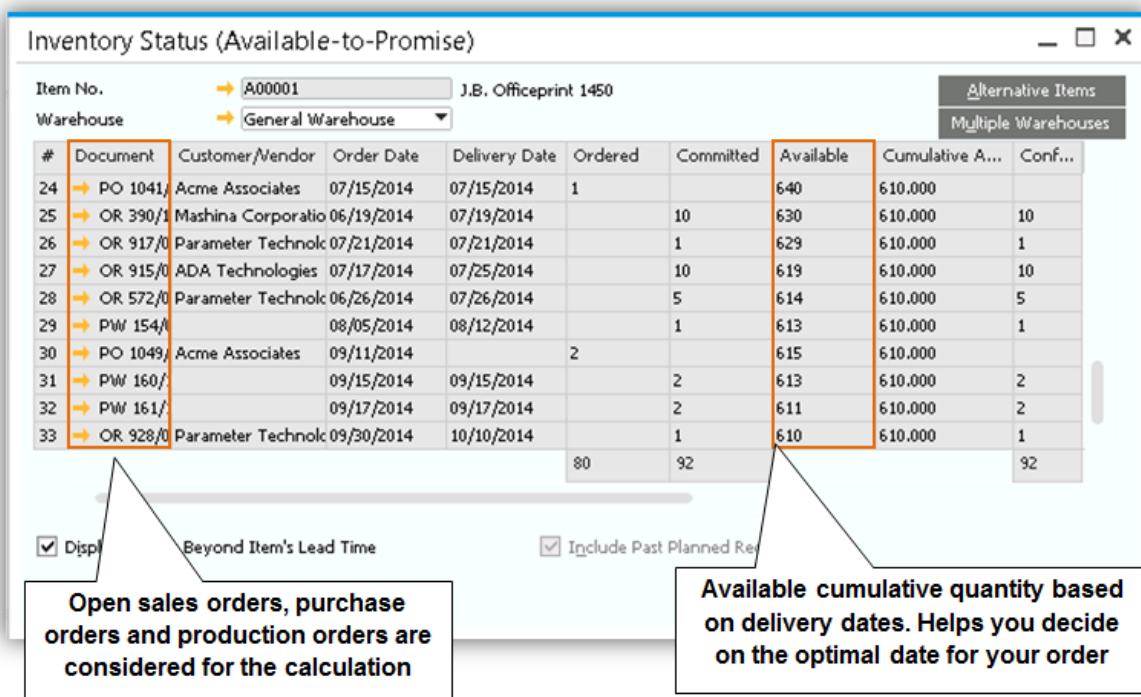

Figure 5-7: Available to Promise
- Display Available to Promise Report – the report shows cumulative quantity by date, based on the report you can change the delivery date for that item. See figure 5-7.